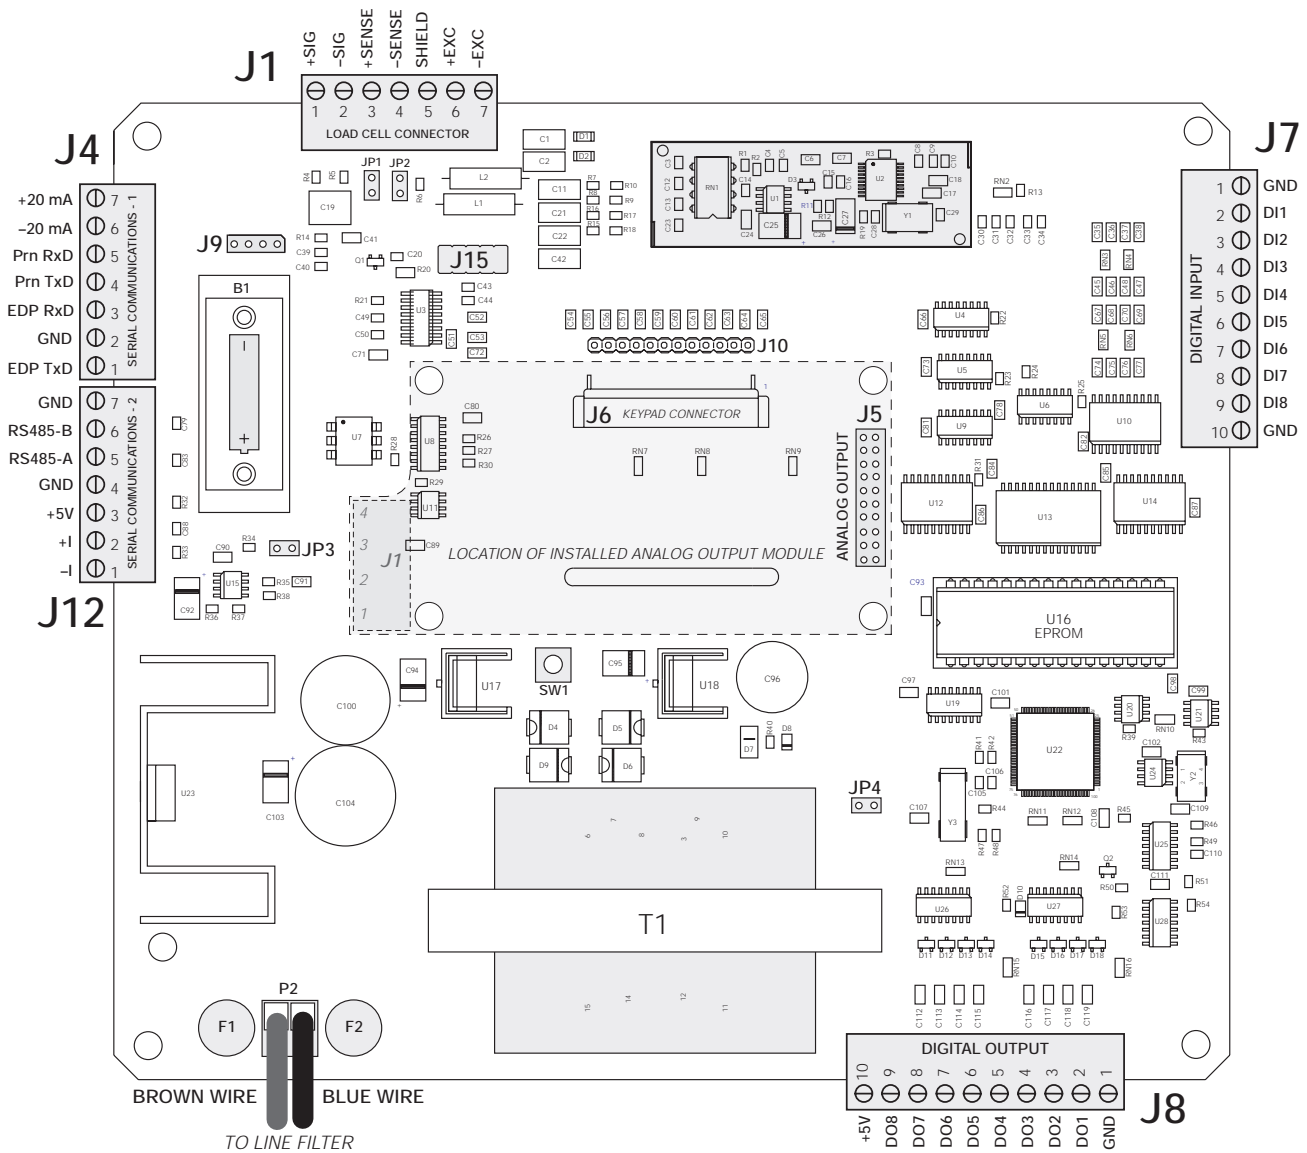

Figure 2-1. IQ plus 710 CPU and Power Supply Board, Rev. 2
To attach cable from a load cell or junction box, remove connector J1 from the board. The connector plugs into a header on the board (see Figure 2-1).
Wire the load cell cable from the load cell or junction box to connector J1 as shown in Table 2-1. If using 6-wire load cell cable (with sense wires), remove jumpers JP1 and JP2 before reinstalling connector J1 (see Figure 2-1). For 4-wire installation, leave jumpers JP1 and JP2 on.
Mount the analog output module on its standoffs in the location shown in Figure 2-1 on page 5 and plug the module input into connector J5 on the IQ plus 710 board. Connect the output cable to the analog output module as shown in Table 2-4, then reassemble the enclosure (Section 2.5).
2. Unplug connectors J1 (load cell cable), J4 and J12 (serial communications), J7 and J8 (digital I/O), J6 (keypad ribbon cable), and JP4 (setup switch). If an analog output board is installed, disconnect the analog output cable. See Figure 2-1 on page 5 for connector locations.